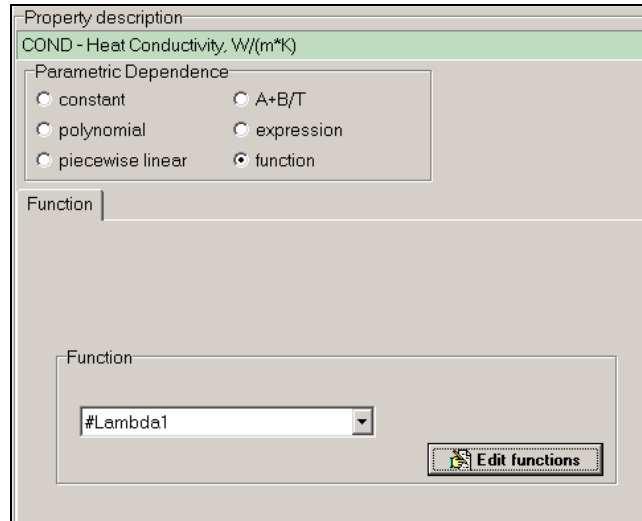

Fig. 52
- **Function** (see Fig. 52) allows the user to specify a complex temperature dependence of the selected material characteristic. In this mode the *Property Description* section contains the following items: